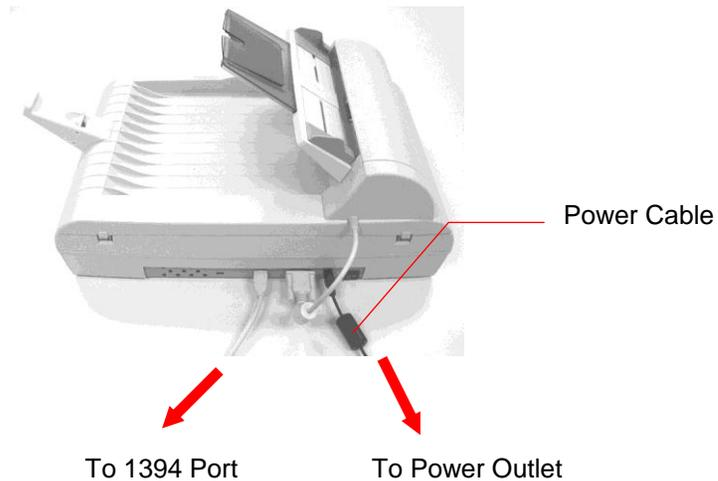

Figure 2.2 Connecting to a computer
- b) Plug the other end to your computer. (See the Figure 2.2)